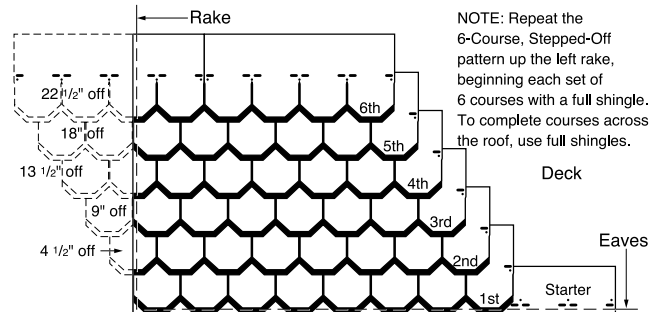

Figure 17-15: Four-and One-Half Off, Six Up (Carriage House).
2. Locate fasteners in starter strip about 1½" up from the bottom edge, so they are centered under the first-course tabs. Continue with full 10" by 36" lengths along the eaves (Figure 17-15).